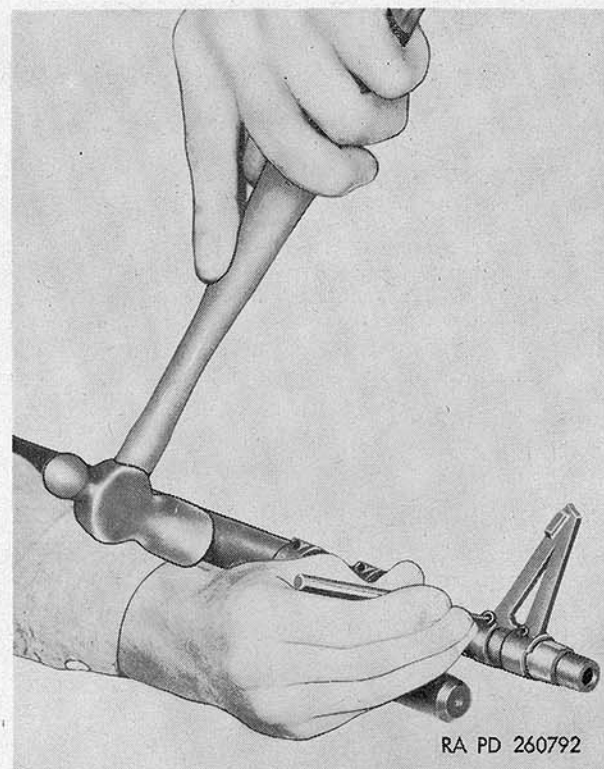

Figure 12. Removing rivets from front sight.
g. Remove both tubular rivets securing front sight to the barrel. Then remove front sight (fig. 12).